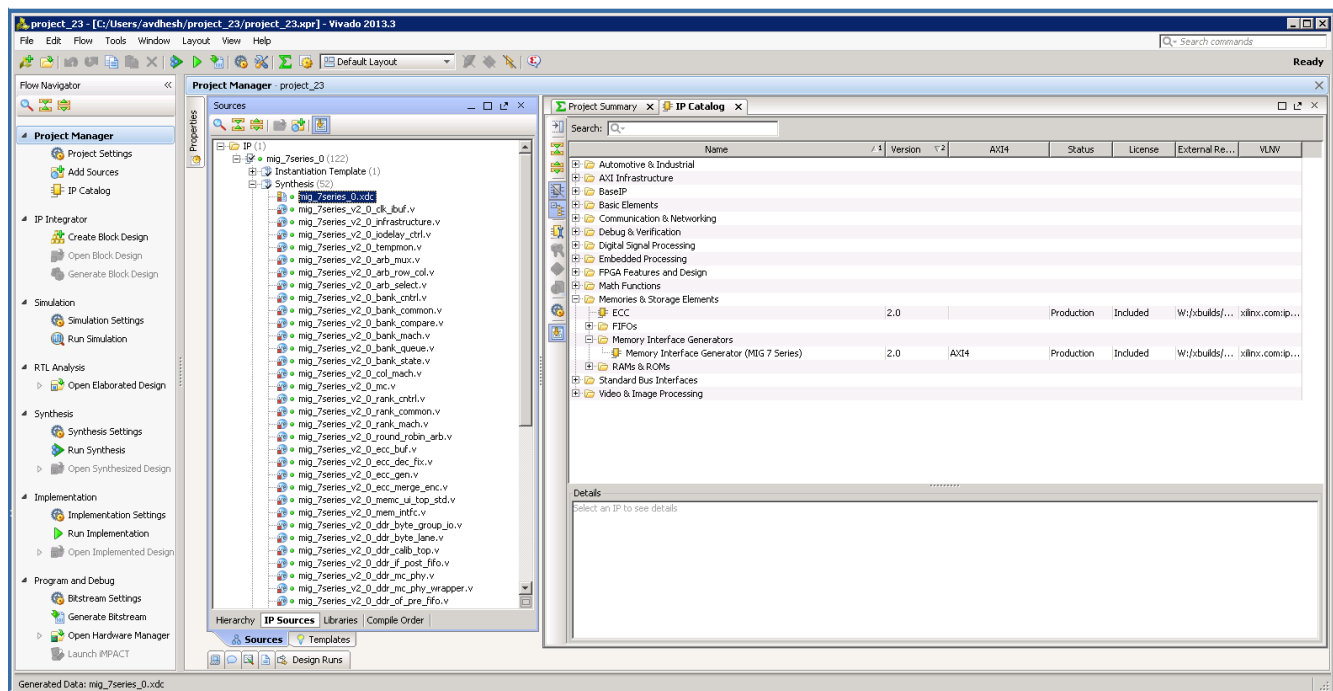

Figure 4-33: Vivado Project – RTL and Constraints Files
8. All user-design RTL files and constraints files (XDC files) can be viewed in the **Sources > Libraries** tab (Figure 4-33).